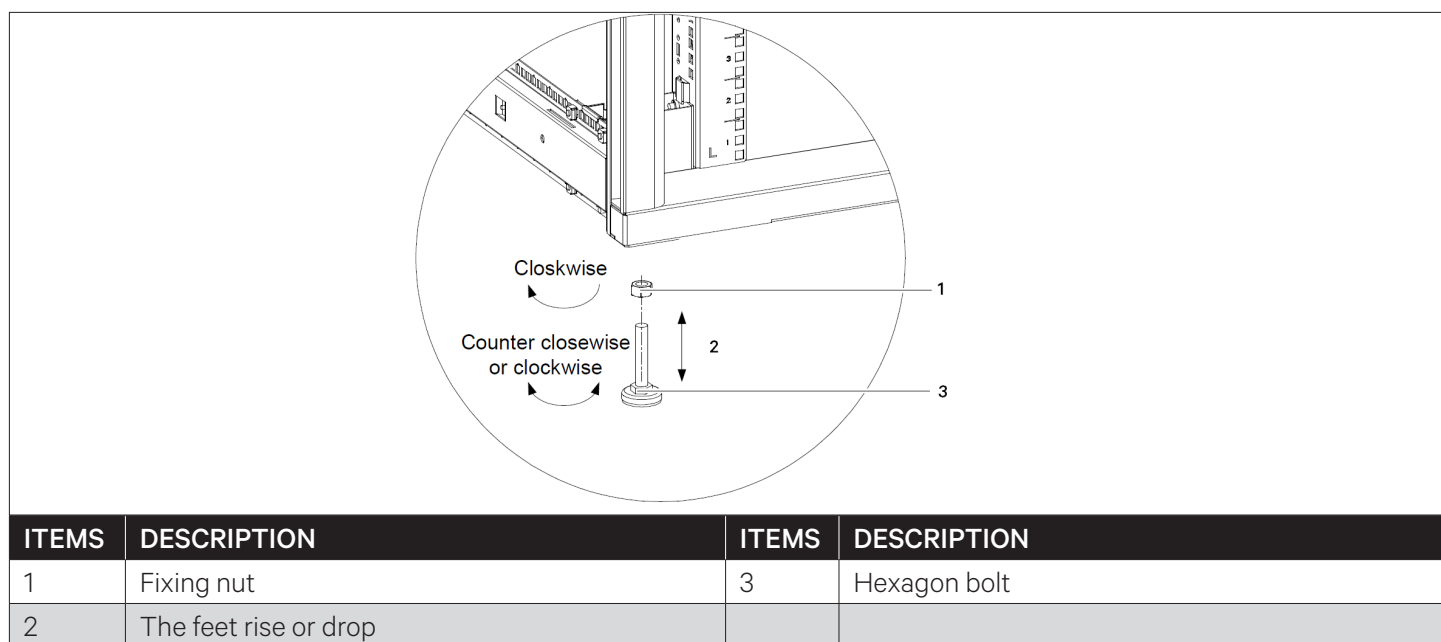

Figure 2-10 Leveling Feet
2. Use an adjustable wrench to loosen the fastening nuts on the 4 hexagonal bolts in a clockwise direction (refer Figure 2-10).